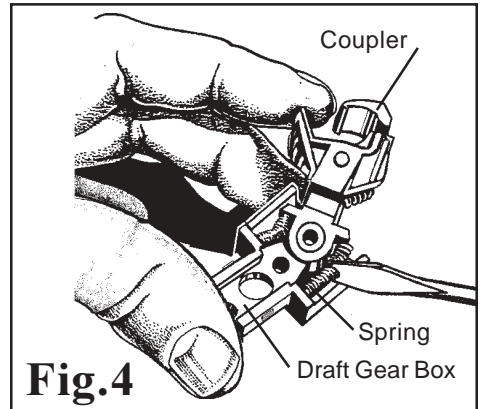

Fig.4
4. Swing Coupler to either side and install the first Centering Spring with a small screwdriver or tweezers as shown in Fig. 4. Now swing the